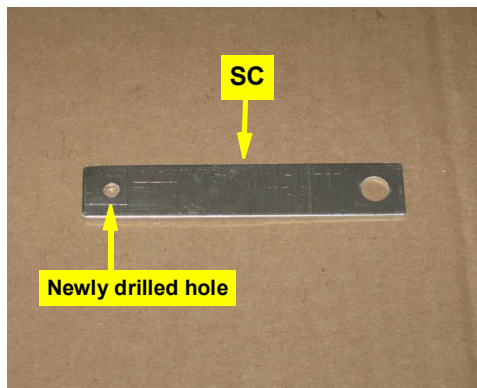

Figure 1a: Newly drilled sensor bracket
- a. Drill a  $\frac{3}{16}$ " hole in the opposite end from the already drilled hole in the sensor bracket **SC** (Figure 1a).